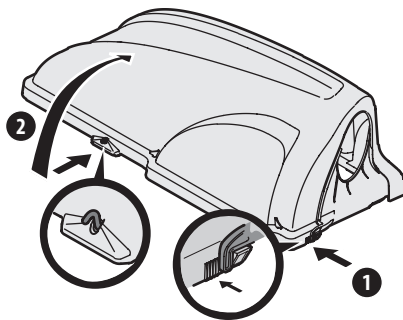

Figure 24
2. Lift up bagger cover by pushing in on the rear, right-side tab with your right hand, as seen in 1 of Figure 24, and lifting the cover with your left hand in the center rear of the bagger cover, 2.